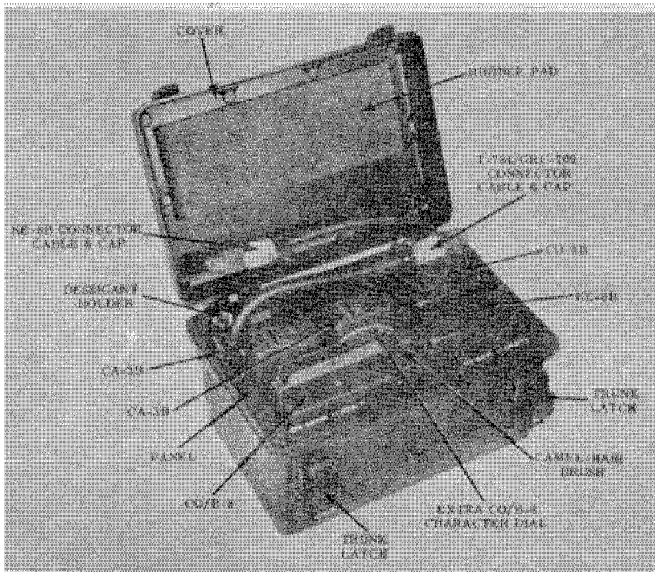

Figure 1-6. KA-3 Keyer Adapter.
1.2.5 *KA-3 Keyer Adapter (MX-4498/GRA-71)*. The KA-3 Keyer Adapter (fig. 1-6) is a water-tight carrying case for the CO/B-8, CO3B, KE-8B, and CA-3B components. Within the KA-3 are rubber cushioned compartments for two (2) CA-3B Cartridges, one (1) KE-78B Keyer, one (1) COTB Coder, one (1) CO/B-8 Coder, one (1) extra character dial, and one (1) camel-hair cleaning brush. Rubber padding on the inside of the KA-3 lid protects the components against possible abrasion and damage during transit.